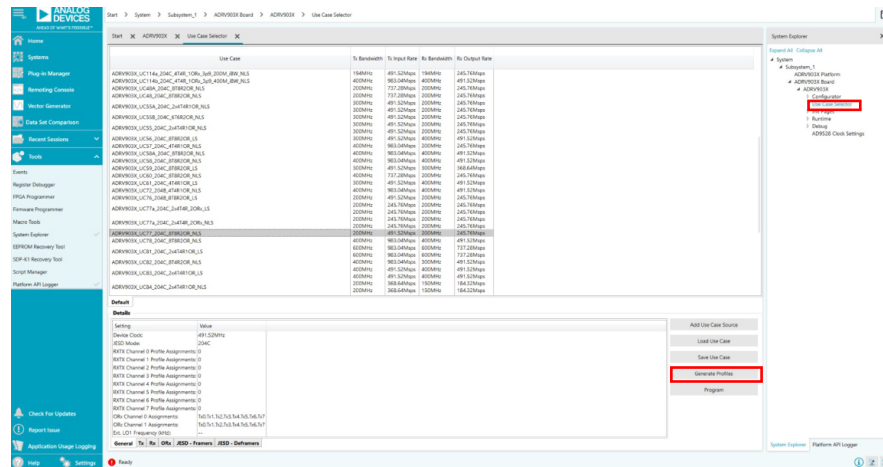

Figure 15. Generate Profiles
1. Select the desired use case from the **Use Case Selector** and click **Generate Profiles** as shown in Figure 15.